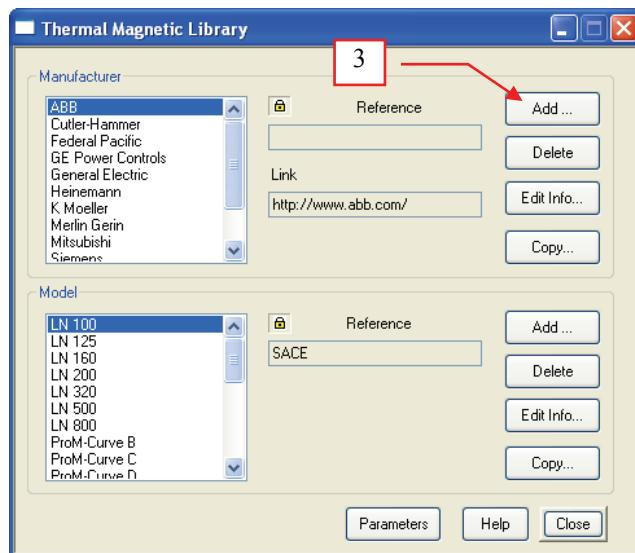

Fig. 14
- In the “Manufacturer” frame of the “Thermal Magnetic Library” dialog box, click the “Add...” button. See Fig. 14.